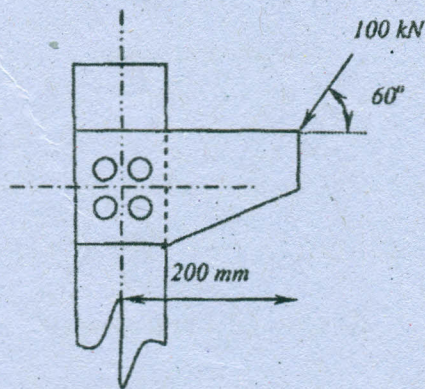

Fig. Q12a
12. (a) Check the safety of the bolted connection shown in figure Q12a. Edge distance = 50 mm. Vertical distance between bolt centres = 60 mm, horizontal distance between bolt centres = 50 mm. Diameter of bolts is 20 mm. Both are of grade 4.6.